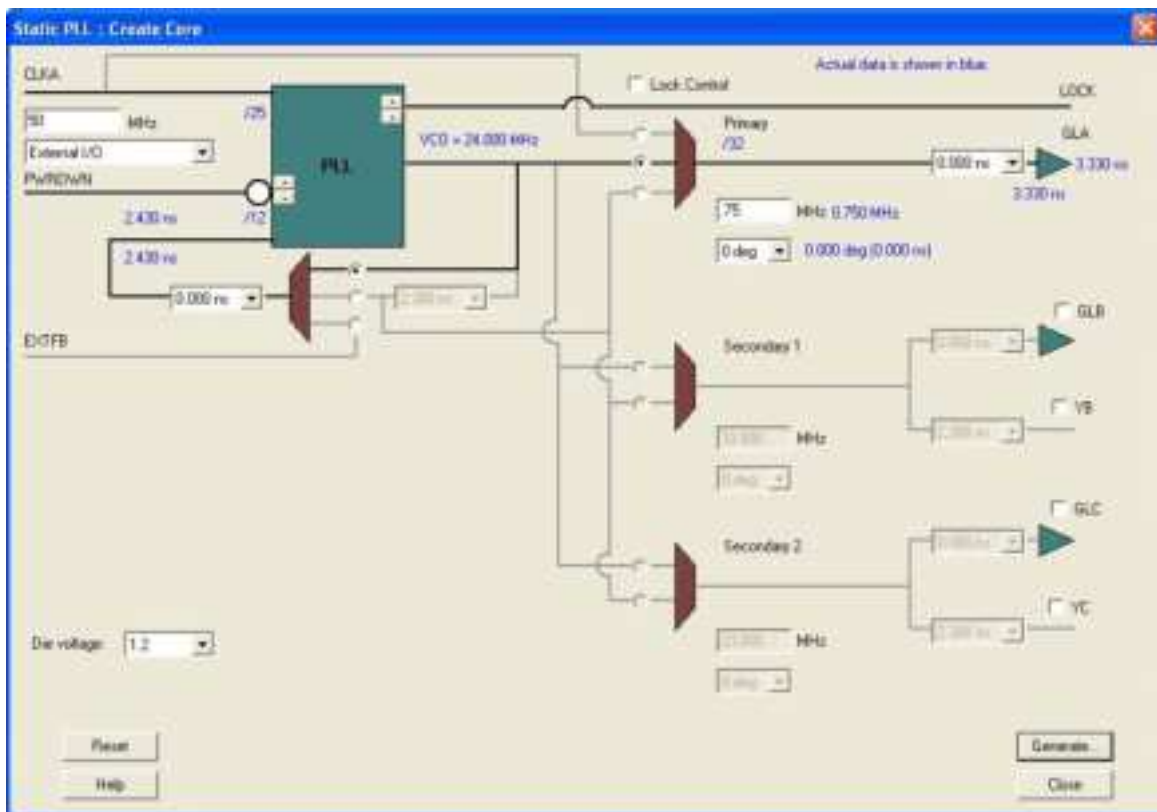

Figure 1-8 • Static PLL Configuration
2. Enter the following in the Static PLL: Create Core dialog box (as shown in Figure 1-8):